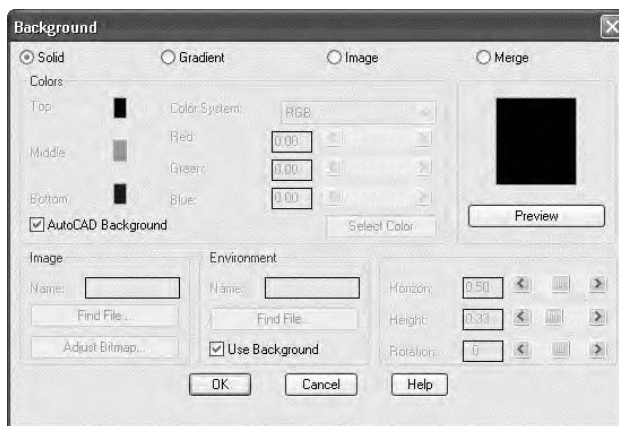

FIGURE A.36: The Background dialog box
1. Click the Background button on the Render toolbar to open the Background dialog box (see Figure A.36).